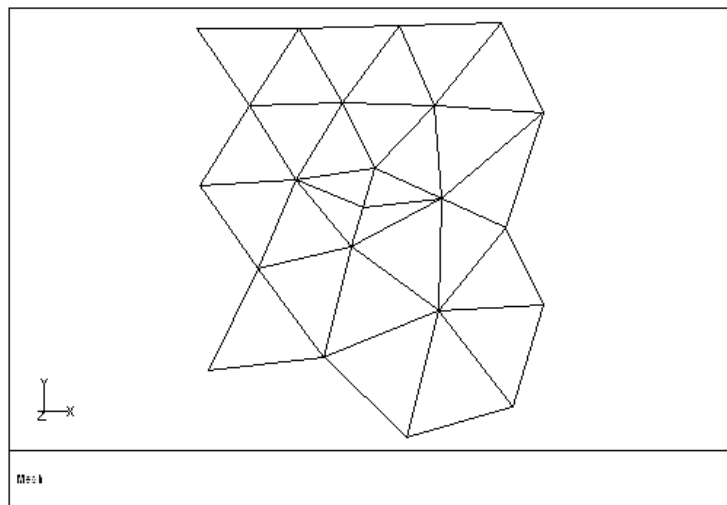

Figure 1.21: Surface Mesh After Edge Splitting
- (c) Click **Split** in the **Operation** group box (Figure 1.21).